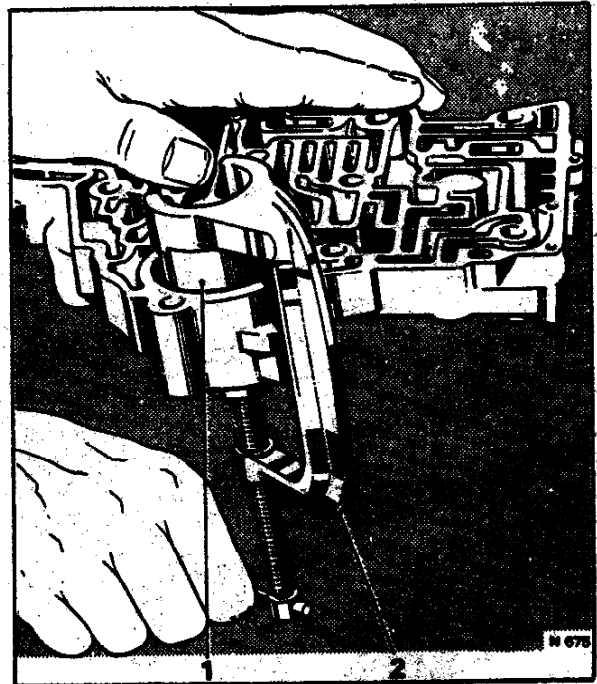

Fig. T60 Fitting the front accumulator piston and spring
3. Fit the valve body accumulator installing tool (J-21885). Align the piston and spring with the bore then compress the spring and piston (see Fig. T60).